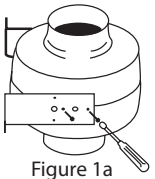
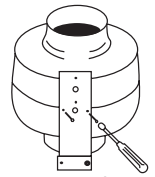
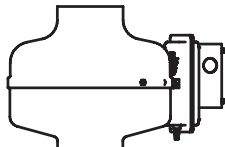
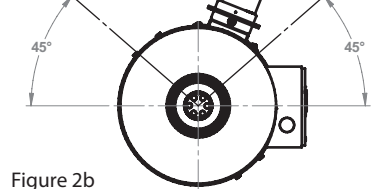

Figure 1a
Figure 1b
Figure 2a
Figure 2b
Attach mounting brackets to the fan housing (Figure 1a or Figure 1b). Please note the airflow direction arrow located on the box cover. Secure the fan to a support at the selected location. If mounting vertically (Figure 2a), ensure the nipple connection on the pressure switch is facing downwards. If mounting horizontally (Figure 2b), the pressure switch must be positioned within the region shown. Ensure the terminal box is positioned for easy access.
- 3. Verify the pressure switch is oriented according to Figure 2a or 2b and the tubing is not crimped.